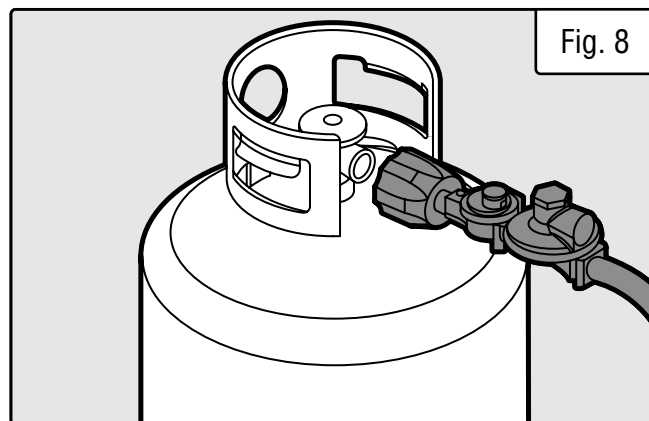

Fig. 8
2. With the LPG tank closed, attach the first-stage regulator to the valve. Turn the regulator's plastic coupling right (clockwise) to tighten the assembly onto the LPG tank (Fig. 8).